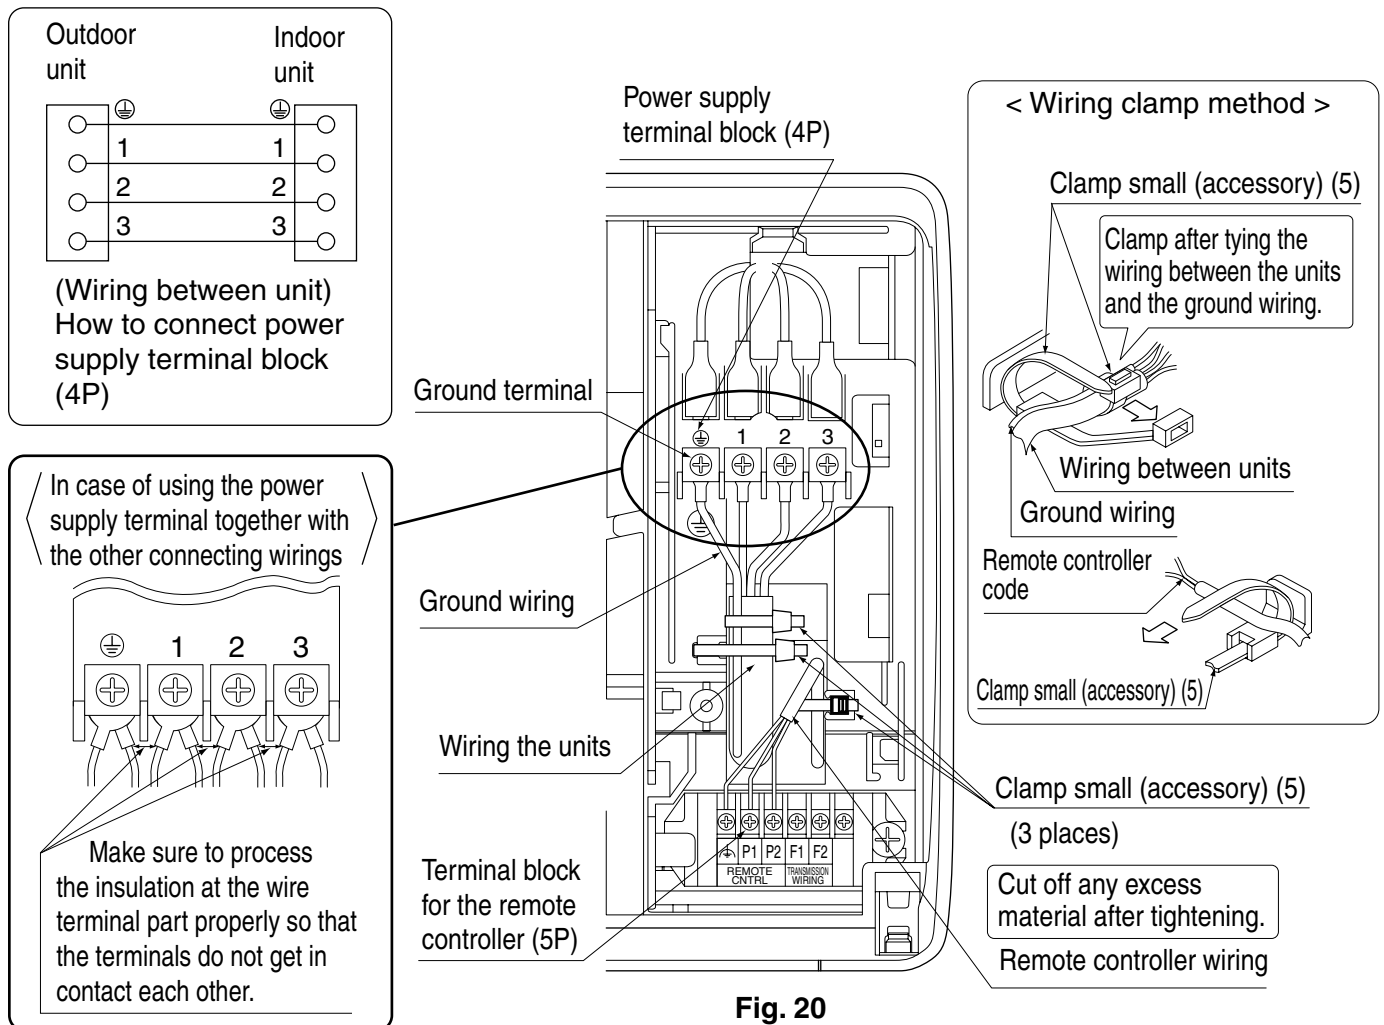

Fig. 20
**(Refer to Fig. 20)**
When doing this, tie the remote controller wiring using the included clamp (small) (5) and then firmly secure using the included clamp (small) (5) according to the figure. **(Refer to Fig. 20)**